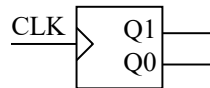

Figure 2: Simple counter block diagram.
2. Design a counter (shown in Figure 2) to count through the sequence 00, 10, 11, 01, 00, ... Note that there is only a single input (CLK) and two active-high outputs (Q1 and Q0). (To start the counter at a known value, use the pre-sets and pre-clears of the two flip-flops.)